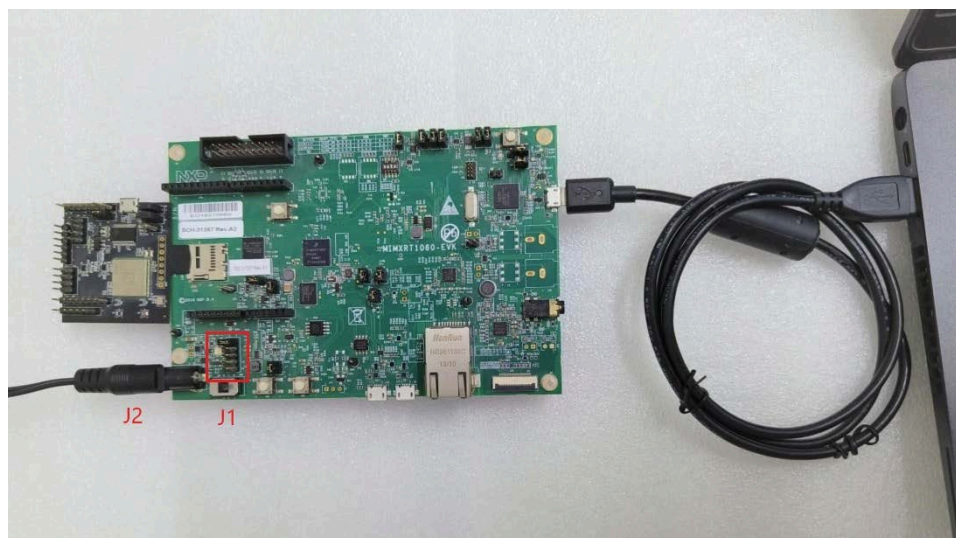

Figure 17. External power supply for i.MX RT1060 EVK board and connection to the host computer for console access
**Note:** In case the initialization of the Wi-Fi driver fails with the setup described in Figure 16, it is recommended to use an external power supply for RT1060 instead of a USB connector to power up RT1060 EVK board. Connect the 5V 3A adapter over the J2 connector of RT1060 as shown in Figure 17. Set the J1 jumper to position 1-2 instead of 5-6 to power up RT1060 EVK board.